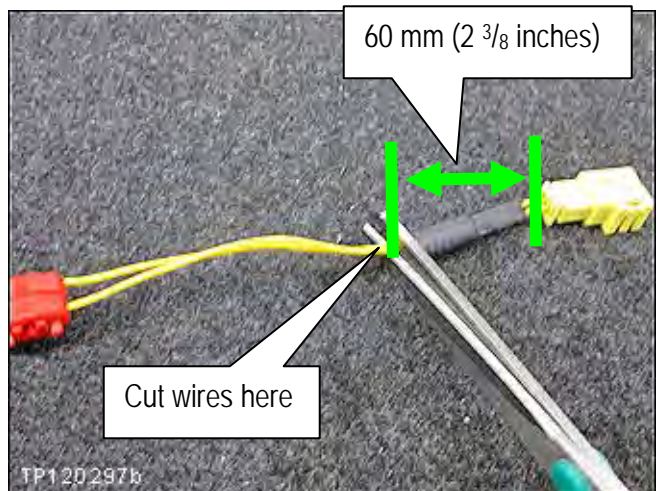

Figure CR11
- 8. Cut the SAB harness wires 60 mm ( $2\frac{3}{8}$  inches) from the back side of the SAB connector (see Figure CR11).